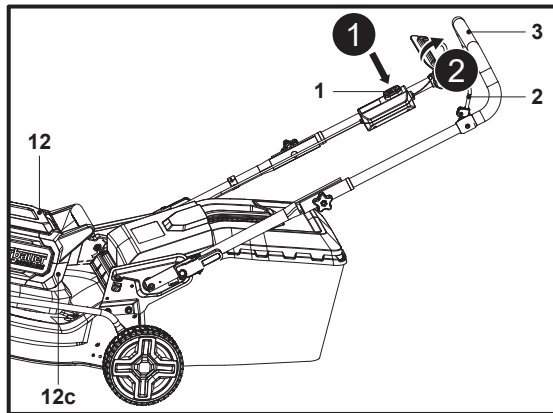

Fig. 16
1. Open the battery compartment cover (12) and install the battery pack (23) into the battery compartment (12e).
2. Close the battery compartment cover (12).
3. Stand behind the grip handle (3).
4. While holding the safety switch button (1) pressed (Fig. 16, step 1), pull the start levers (2) towards the grip handle (3) within 5 seconds and hold it in position (Fig. 16, step 2).
5. After the lawn mower starts, release the safety switch button (1).
6. The actual battery capacity will be displayed on the battery display (12c) at the back of battery compartment cover (12).
7. The work lamp (12f) at the front of battery compartment cover (12) will be automatically powered on.